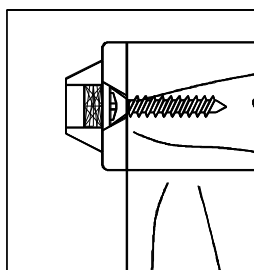

Figure 1
1. Attach the Side panel (B) and the Partition panel (C) to the Bottom panel (D) using Bolts (a) as shown in **Fig.1** .Tighten by hand first. Securely tighten all bolts with Allen Wrench, but do not over tighten the Bolts.
Use a 3/32" drill bit to drill pilot holes into the furniture item at the "screw marks". Use the TWO Short screws to secure the furniture-side bracket. This bracket can be positioned either vertically or horizontal as necessary (See Figure 1).